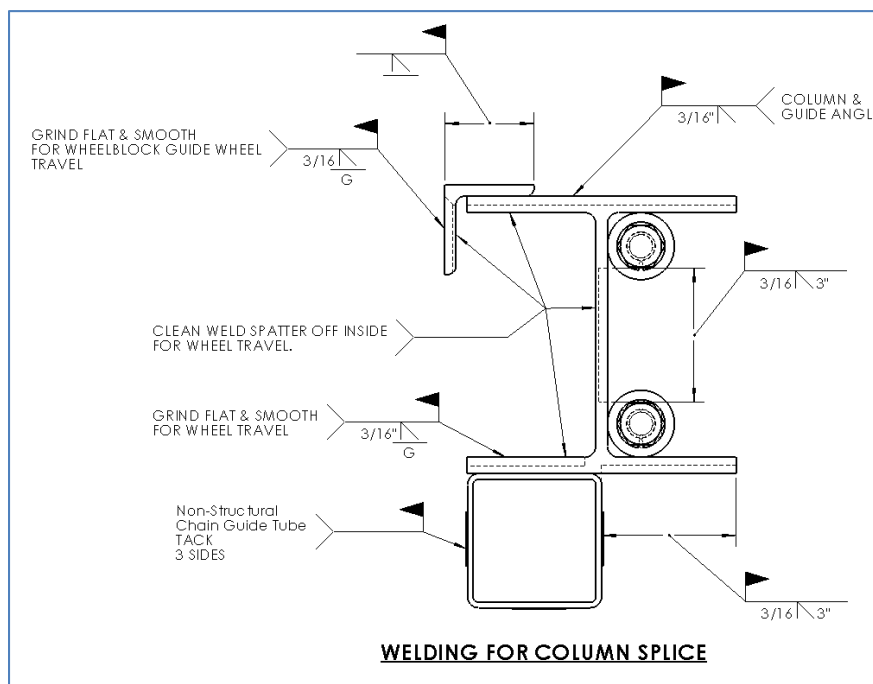

Figure 6
10. Weld the guide angle at the splice on the outside of the column and then grind it flat (this is to allow wheelblock shoe clearance for vertical carriage travel). Be sure to do short welds on the chain tube. The chain tube is not a structural member. It is provided as a chain guard. The chain tube is thin walled. You must be careful not to burn through the chain tube. **See Figure 6.**